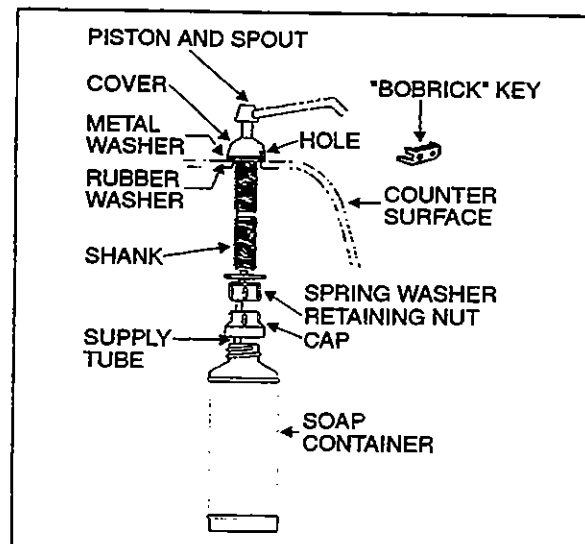

Figure 13
2. Insert projection at end of "BOBRICK" key into rectangular hole in cover (see fig. 13). Push straight in. While holding "BOBRICK" key in, turn cover counterclockwise about 1/8 turn.